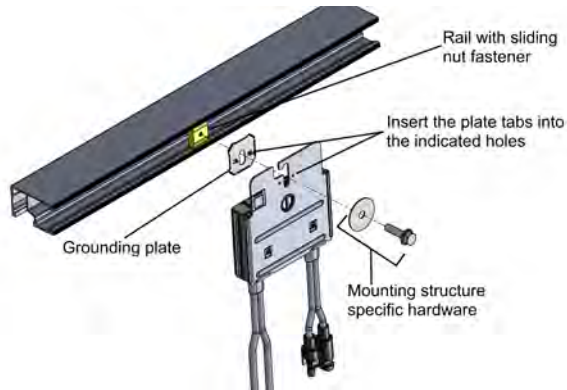

Figure 6: Power optimizer installation and grounding using a grounding plate
- **For mounting on rails with sliding nut fasteners:** If the star washer cannot be used, use the SolarEdge grounding plate (purchased separately) between the railing and the flat side of the mounting bracket. Use mounting specific hardware as needed. Apply a torque of 9.5 N*m / 7 lb*ft. See Figure 6.